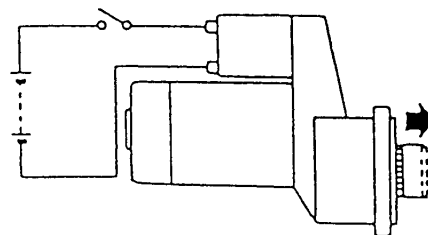

Figure 11-33
- Turn the switch ON and measure the pinion moving distance L in the thrust direction (**Figure 11-33**). Perform this test within 10 seconds. See *Starter Motor Specifications on page 11-7 for the service limit*.